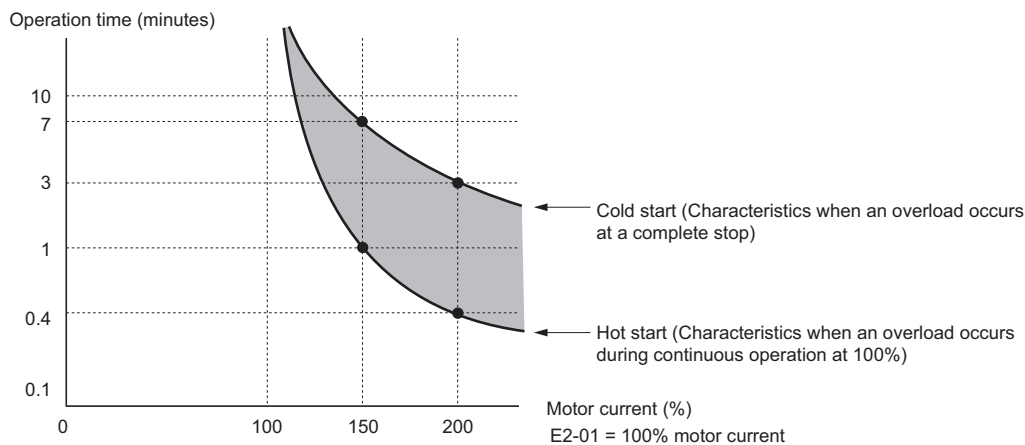

Figure 66 Protection Operation Time for General Purpose Motors at the Rated Output Frequency
- **Figure 66** shows an example of the electrothermal protection operation time using a general-purpose motor operating at 50 Hz with L1-02 set to one minute.